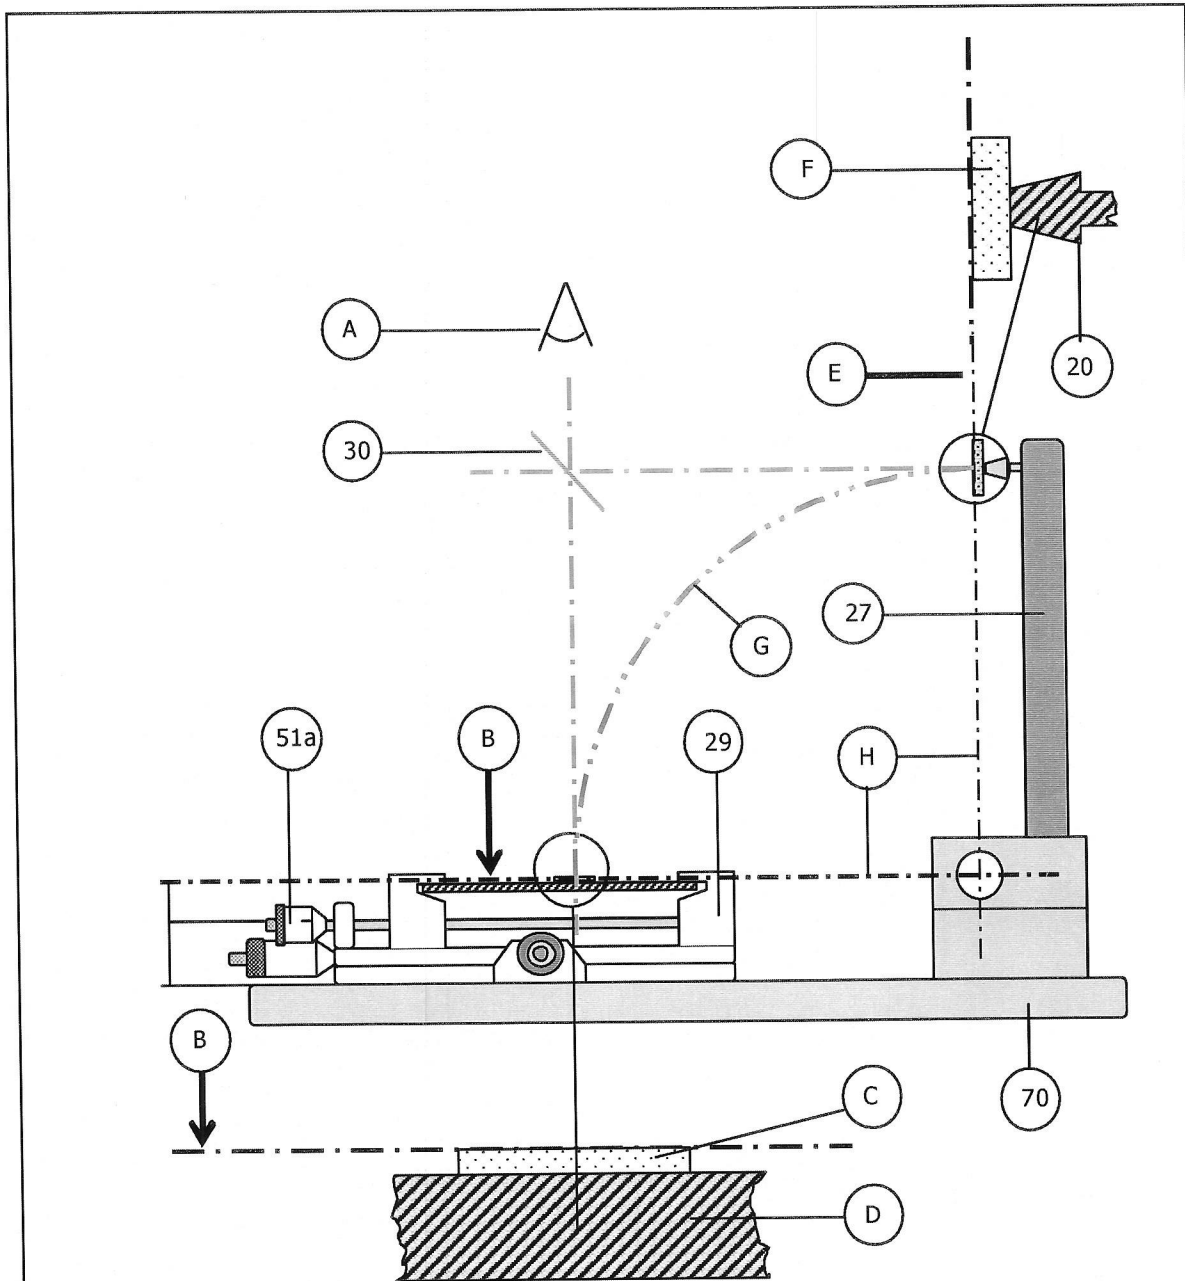

Fig. 1: Operating principle of the A4 with height adjustable table (sketch of the lateral view, right hand side)
The patented advanced Vision Alignment System of the "PICO" is based on the principle of imaging two orthogonal images simultaneously into one common image plane, using a stationary beam splitter (30) and a single beam deflection (see fig. 1):
The configuration shown in fig. 1 allows orthogonal view of the objects component (F) and substrate (C), so both are seen to be observed "vertically from above" (A). The overlay image allows a comparison of all connectors on each component lead with each substrate pad at a glance.